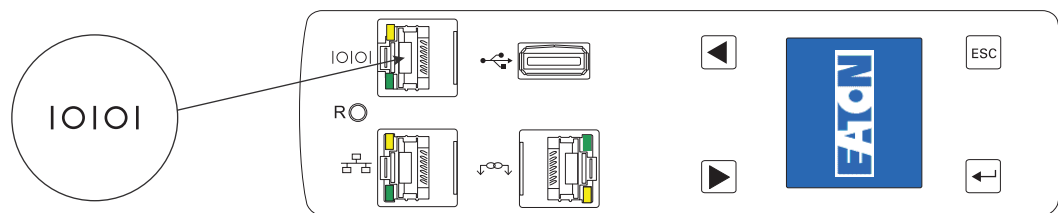

Figure 28. Connecting to a Computer Serial Port (OU Models)
3. Connect the RJ-45 end of the cable to the RS-232 connector on the front panel of your ePDU model (see Figure 28). Connect the DB9 end of the cable to the serial connector on the computer.